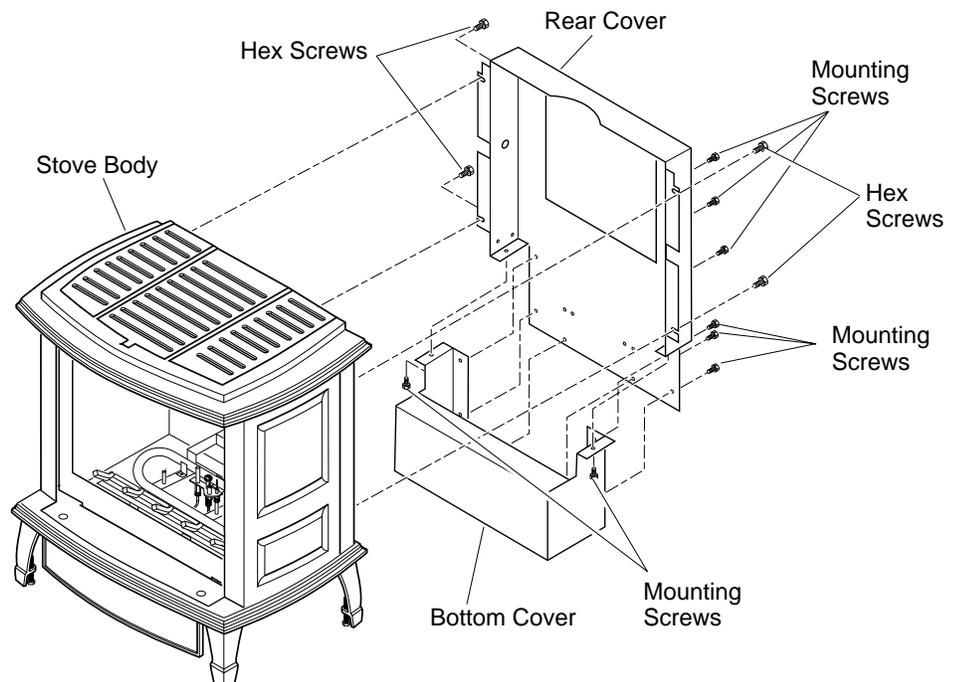

Figure 16 - Removing Rear Cover and Bottom Cover from Stove Body
1. Remove 4 hex screws securing rear cover to back of stove body (see Figure 16).
2. Separate bottom cover from rear cover by loosening the 8 mounting screws (see Figure 16).
14. Reattach bottom cover to rear cover with 8 screws (see Figure 16, page 7). Make sure that you don't pinch any wires during reassembly. Route power cord through plastic bushing in bottom of rear cover.